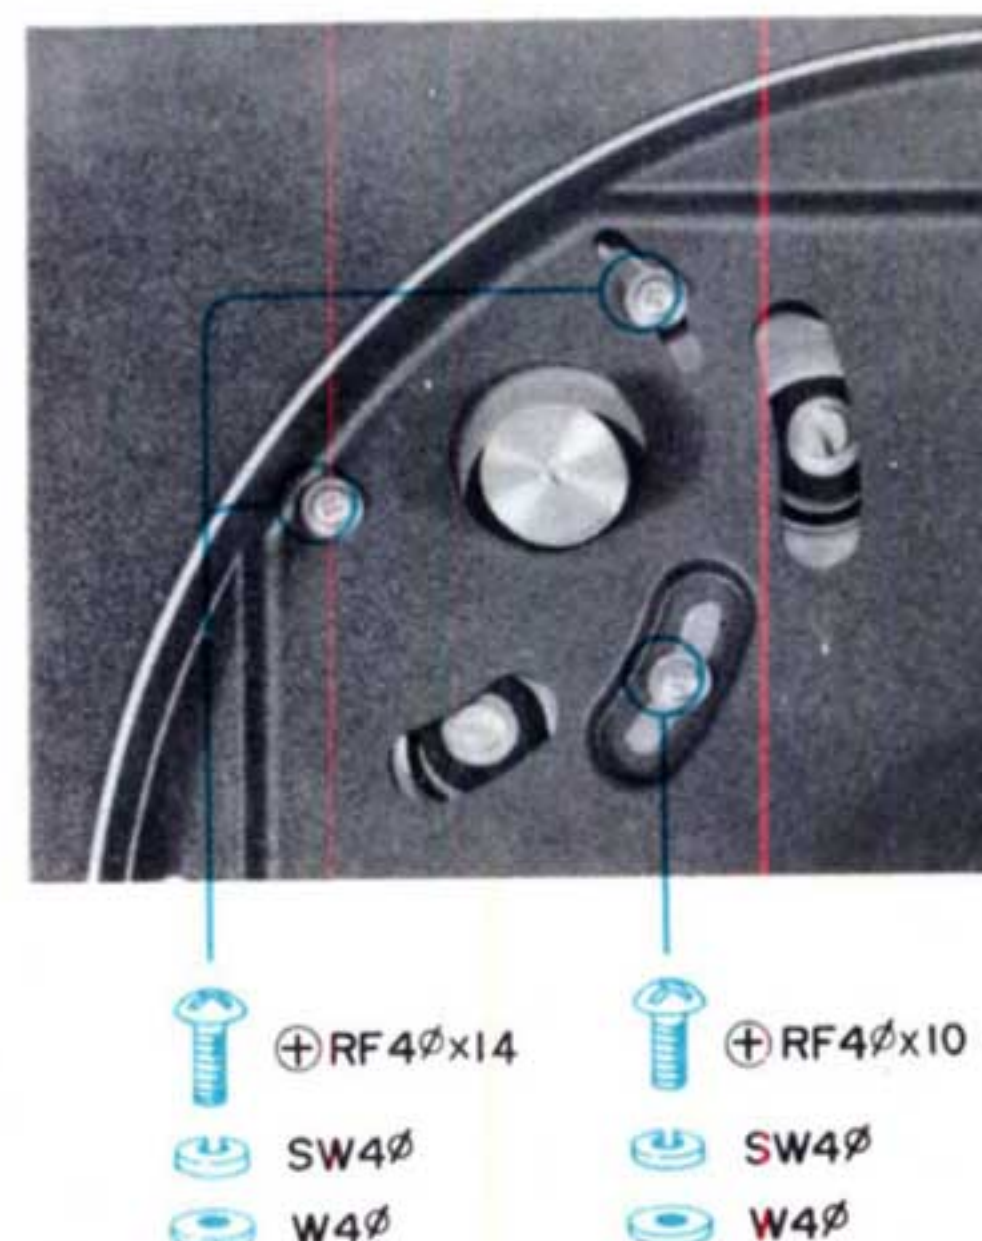

Fig. 2-12 Removal of Motor Bracket
4. Remove the three screws which secure the Motor supporting bracket to turntable. See. Fig 2-12.